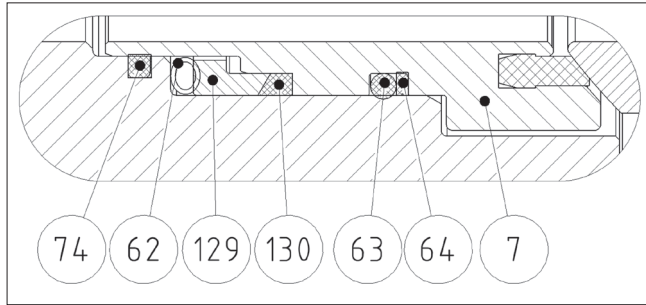

Fig. 13
- Place the back seal (O-ring) (63) into the groove in the seat. See Figure 13.
- Place the back-up rings (64) made of PTFE strips at the side of the O-ring. To ensure that the seam becomes flexible, the strip must have slanted ends.
- Place the backseal (130) and ring (129) on the seat.
- Place the spring (62) on the seat (7). See section R seat for installation of part (62).
- Place the solids proof seal (74) into the groove in the body and body cap.